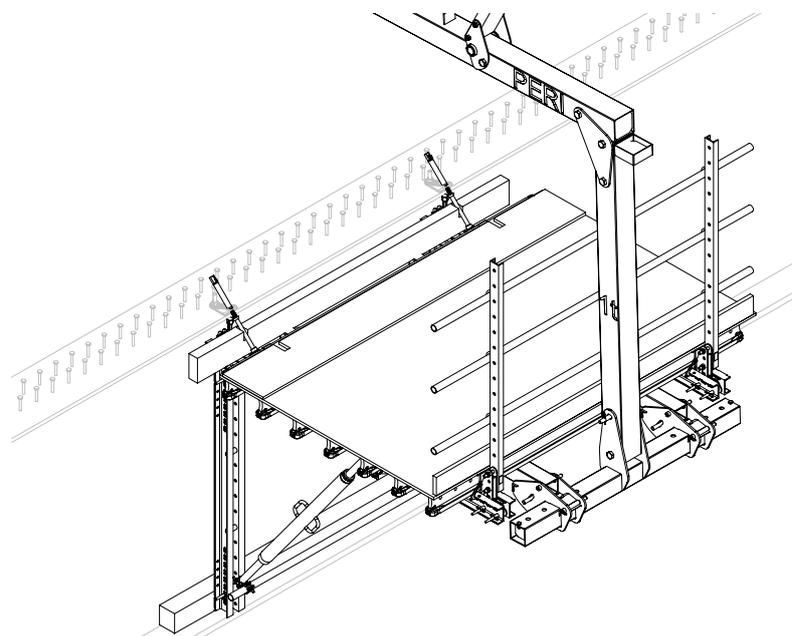

Fig. B1.03
2. Screw prepared tube nuts (5.12) onto the Tie Rods DW 15 (5.2). (Fig. B1.03)